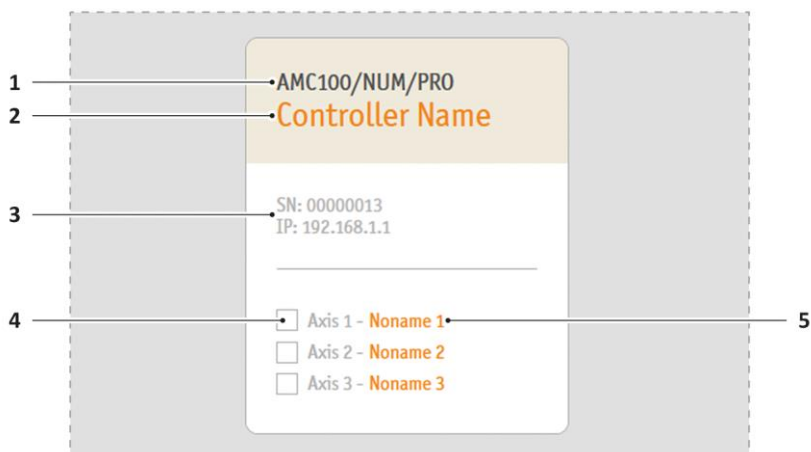

Figure 10 Controller tile
Figure 10 represents a device with activated /PRO feature. The /PRO feature is available through a separate upgrade. Please contact attocube for further information.
1. To rename the controller, click the controller name field (Figure 10/2).
1. To rename an axis, click the respective axis name field (Figure 10/5).
- o To select an axis, check the respective checkbox (Figure 10/4).